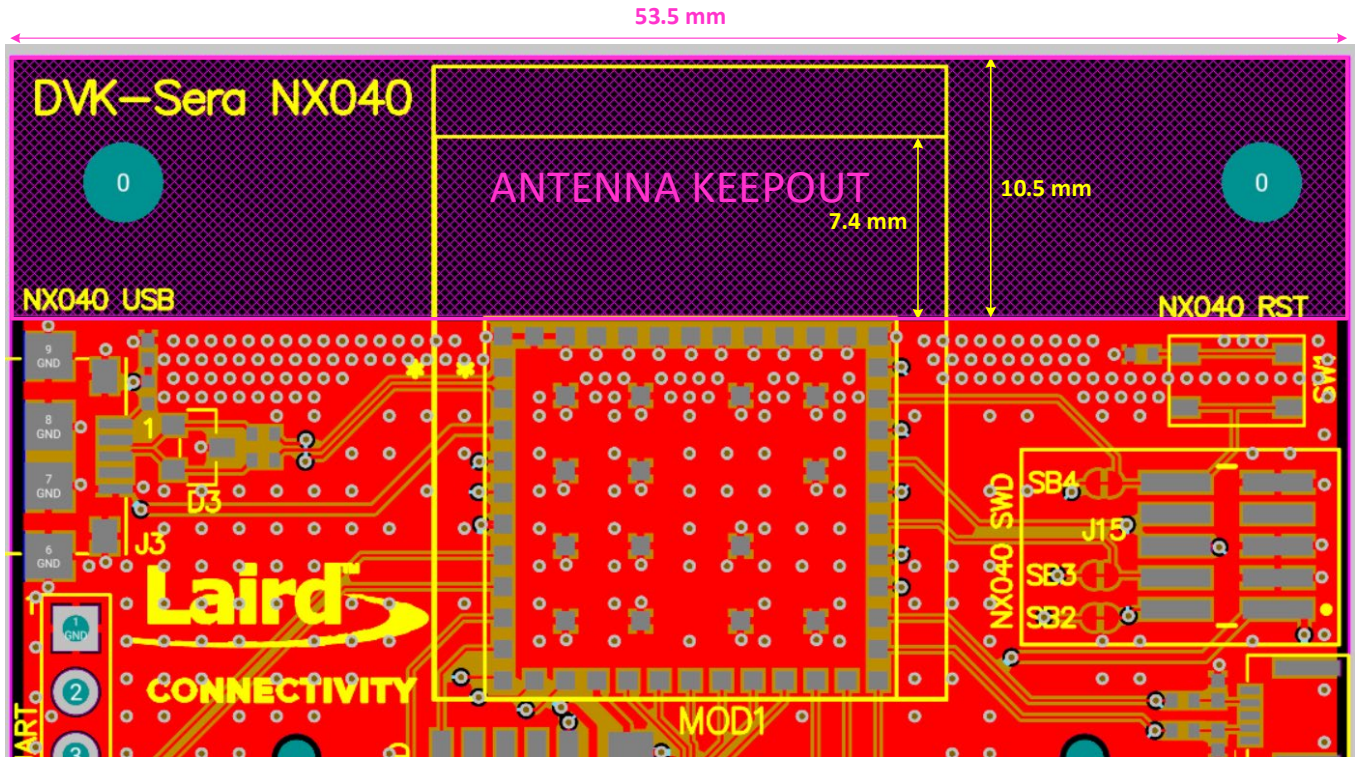

Figure 1: PCB trace Antenna keep-out area (cross-hatched), top edge of the NX040 development board for the 453-00175 module.
- The NX040 development board has the 453-00175 module on the edge of the board (not in the corner). The antenna keep-out area is defined by the NX040 development board which was used for module development and antenna performance evaluation is shown in Figure 1, where the antenna keep-out area is 10.5 mm high, 53.5 mm wide; with PCB dielectric (no copper) height 1.6 mm sitting under the 453-00175 PCB trace antenna.
Note 2	For the best on-board antenna performance, the module 453-00175 MUST be placed on the edge of the host PCB and preferably in the edge center of the host PCB with the antenna "Keep Out Area" is extended on the host board as done on the NX040 development board in Figure 1.